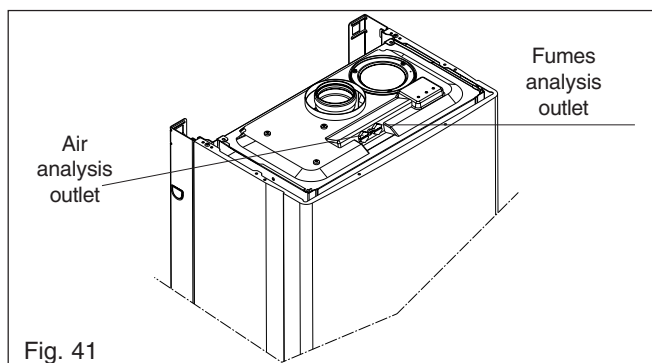

Fig. 41
- Locate and remove the CO test point sealing screw (see fig. 41).